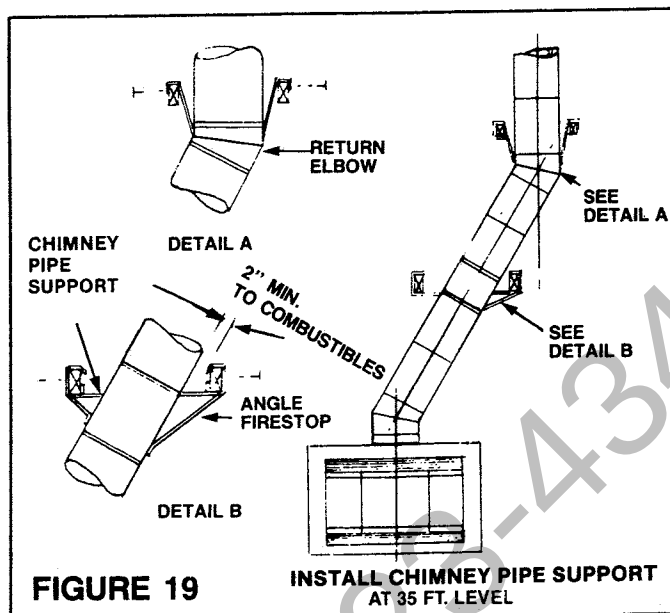

FIGURE 19
2. Chimney weight above offset rests on return elbow. Straps must be securely nailed to rafters or joists. (see Figure 19).